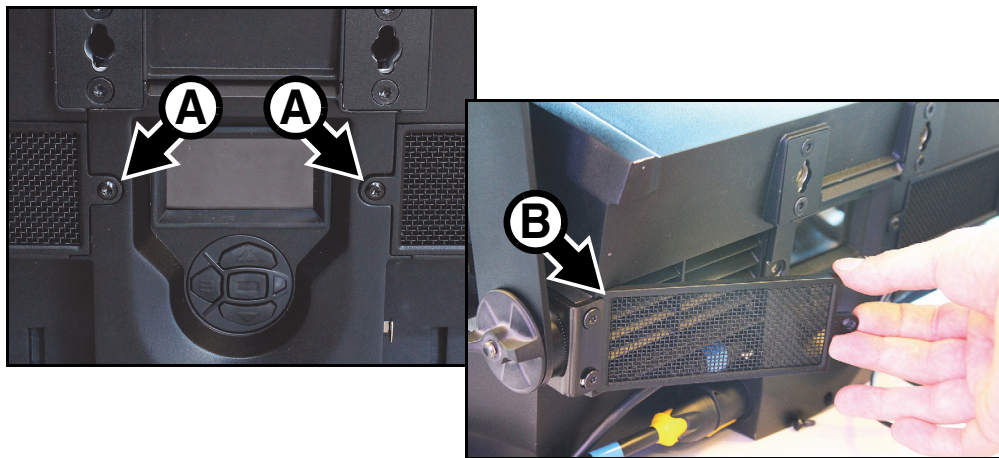

Figure 10: Removing air grills
3. If the air grills on the back of the fixture are not perfectly clean, see Figure 10. Remove the air grill retaining screws **A**, swing the grills out and remove the grills from the back of the fixture. Clean the grills with a soft brush and vacuum cleaner. If there is any oily residue on the grills, clean them in a detergent solution, then dry them thoroughly. Reinstall the grills by first hooking the outside edge **B** into the grill aperture, then installing the screws **A**.